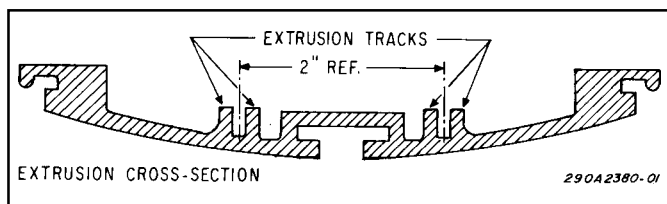

Figure 3.
3. Locate reflector along tracks provided in extrusion (figure 3) and secure reflector assembly to extrusion with three #8-32 hex head thread-forming screws (supplied).